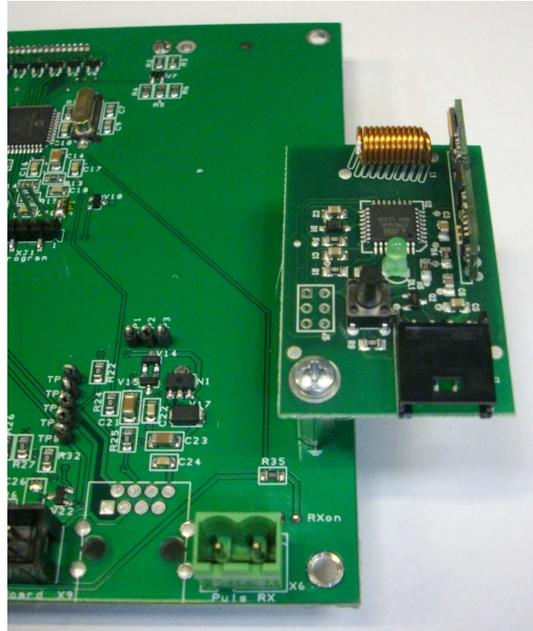

Figure 6-15
4. Assemble the A6 Radio board on the CPU board using the provided screw (Figure 6-15).